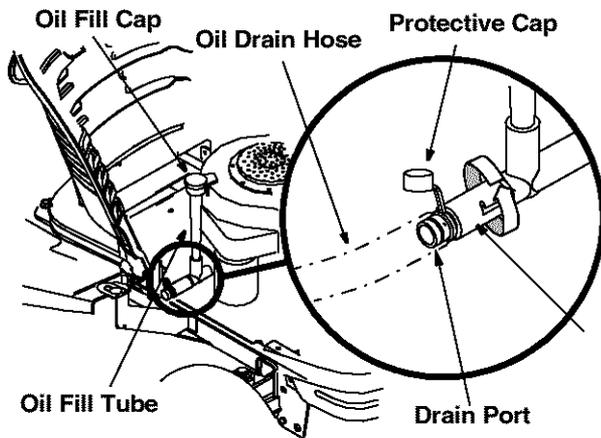

Figure 7
- Unscrew oil fill cap and remove dipstick from the oil fill tube. See Figure 7.
- Pop open the protective cap on the end of the oil drain valve to expose the drain port. See Figure 7.
- Push the oil drain valve in slightly, then rotate counterclockwise and pull outward to begin draining oil. See Figure 7.